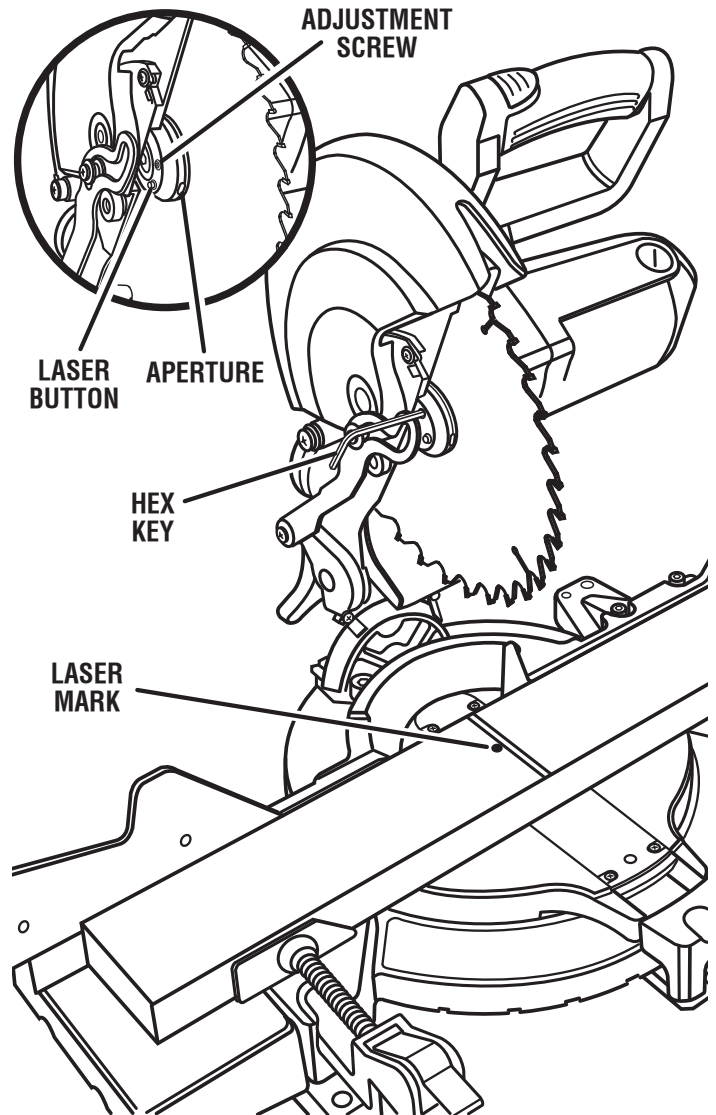

Fig. 34
See Figure 34.
- Rotate the blade by hand until you can push and hold the laser button and the laser is near the center of the workpiece as shown in figure 34.
- To adjust the laser, turn the adjustment screw counter-clockwise or clockwise using the hex key (1/16 in.) provided.
- Once aligned, remove and store the hex key (1/16 in.), and lower the blade guard.